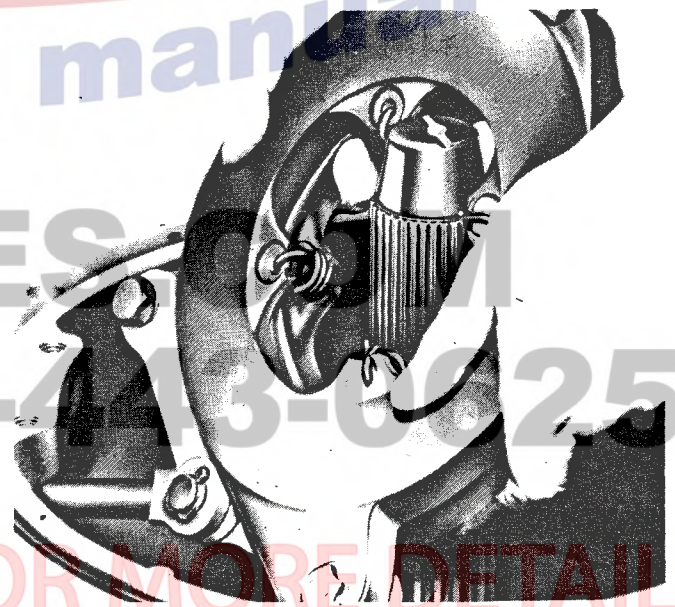

FIGURE 10 - Fitting Brake Actuating Discs
- d. Brake actuating disc assembly with the control rod passing through the brake control rod seal assembly (Figure 10). Position the notch over the torque pin. If the brake control rod seal assembly has been removed, install a new seal by tapping it into the rear axle housing and locking the seal in the annular groove on the brake control rod. Secure a new control rod gastener.